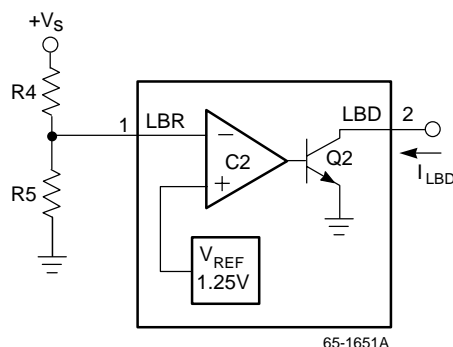

Figure 13. Low Battery Detector
*Caution: Use current limiting protection circuit for high values of C_F (Figure 13)
An open collector signal transistor Q2 with comparator C2 provides the designer with a method of signaling a display or computer whenever the battery voltage falls below a programmed level (see Figure 13). This level is determined by the +1.25V reference level and by the selection of two external resistors according to the equation:
Draws excessive supply current on star-up.	Inductance value too low. Output frequency (FO) too low. Combination of low resistance inductor and high value filter capacitor — needs current limiting circuit (Figure 13).